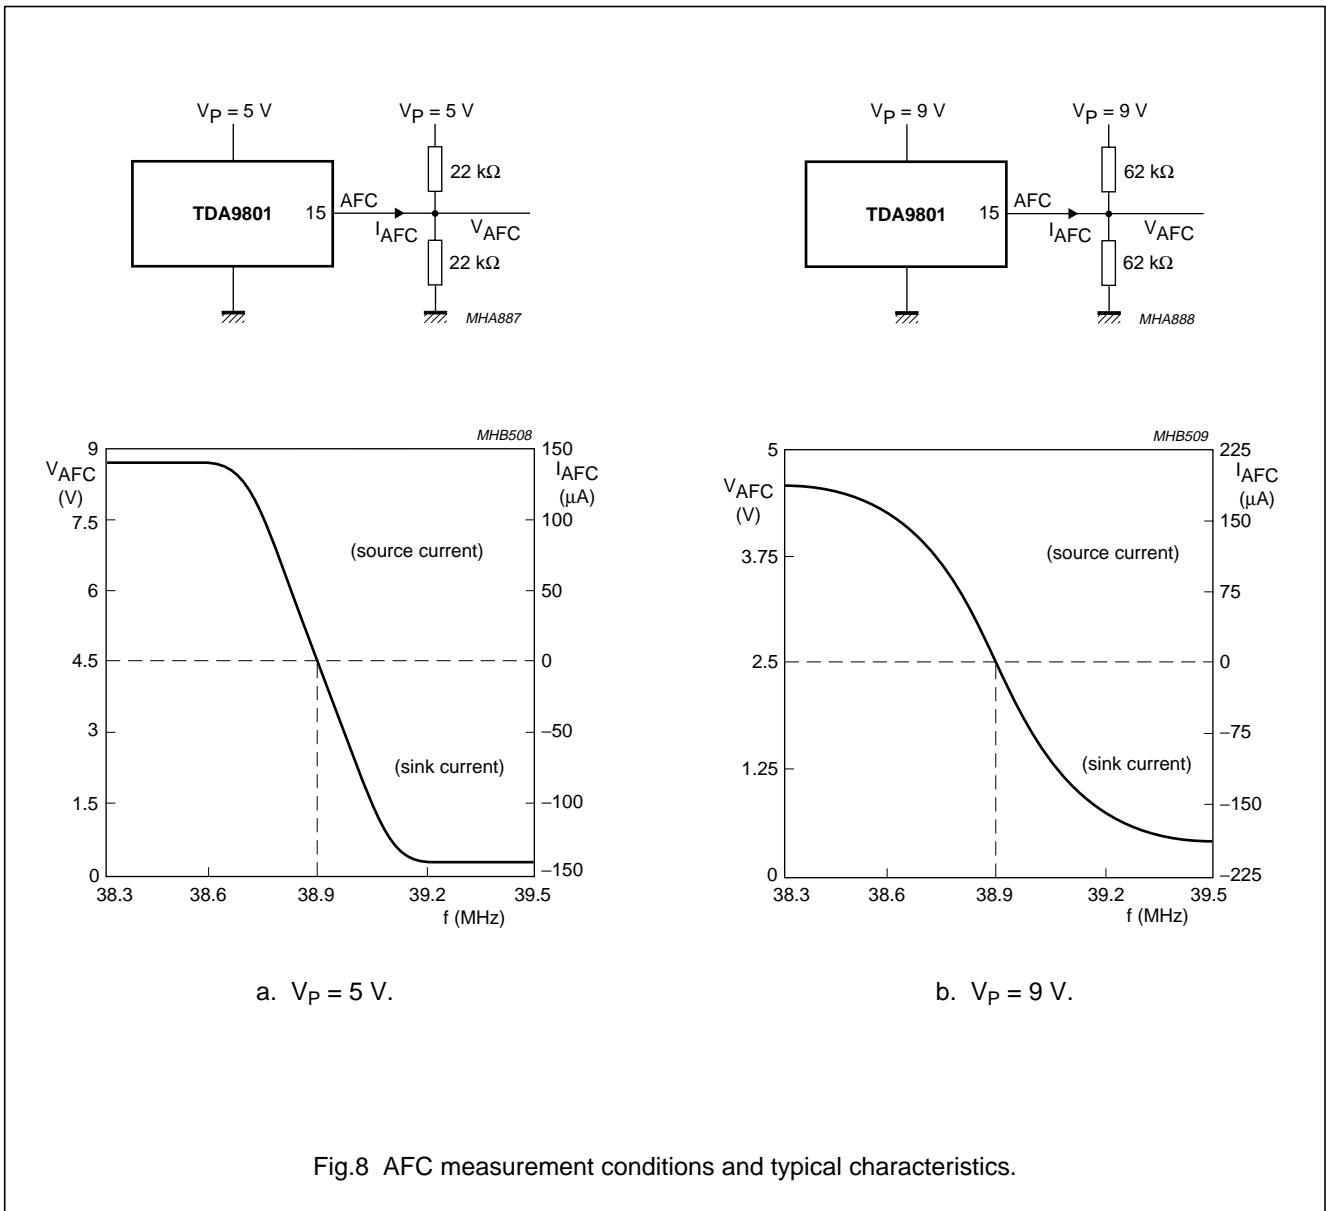

Fig.8 AFC measurement conditions and typical characteristics.
15. To match the AFC output signal to different tuning systems a current source output is provided (see Fig.8).